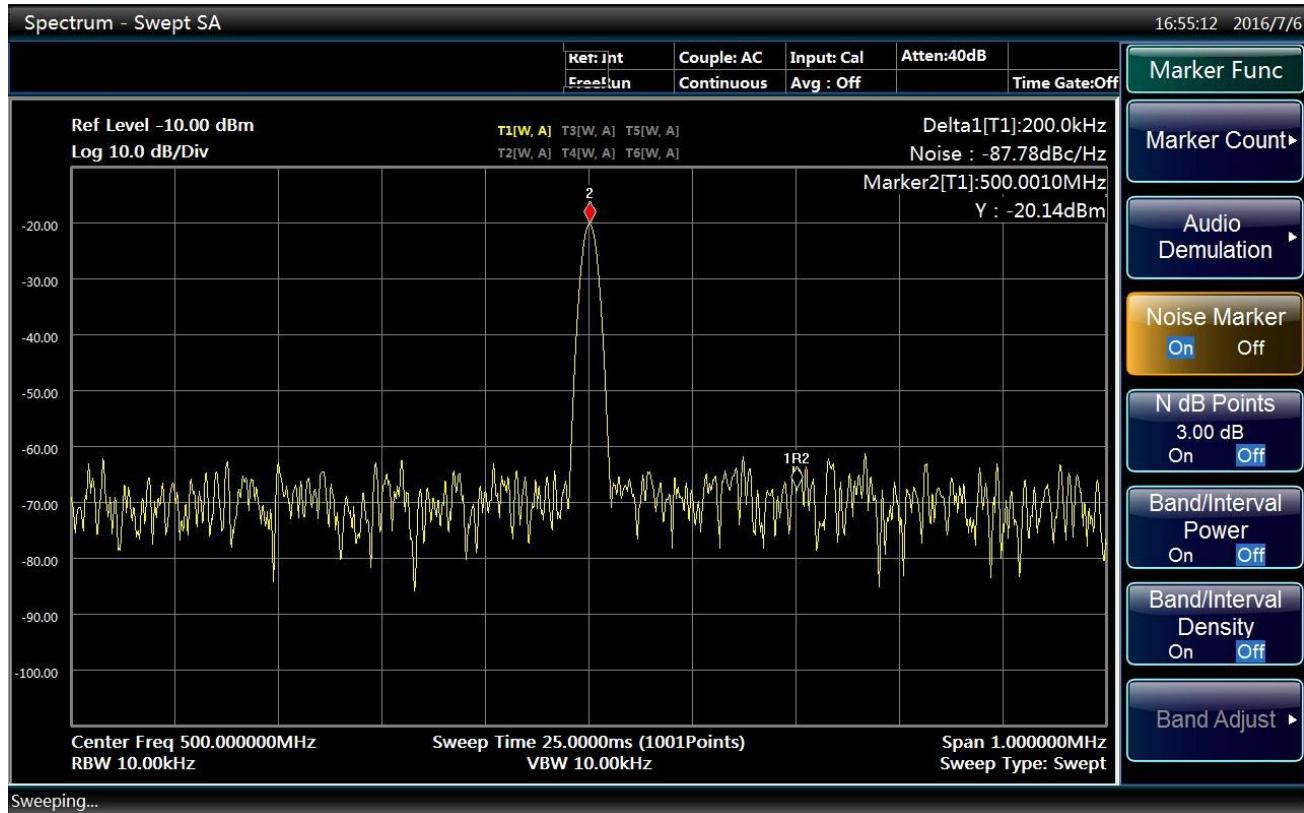

Fig. 4.31 Measure SNR
- Press [Marker Func], [Noise Marker ON OFF] to open noise marker. As shown in Fig. 4.31.